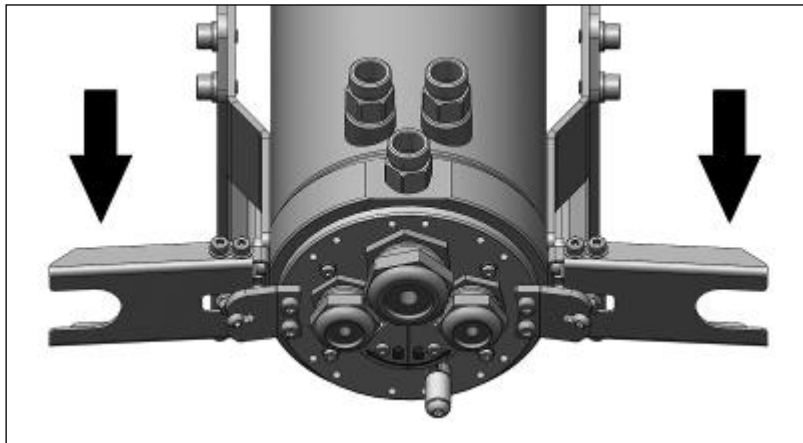

Figure 32: Unlocking of the hinge
5. Dismount in reverse order (**Figure 32**).